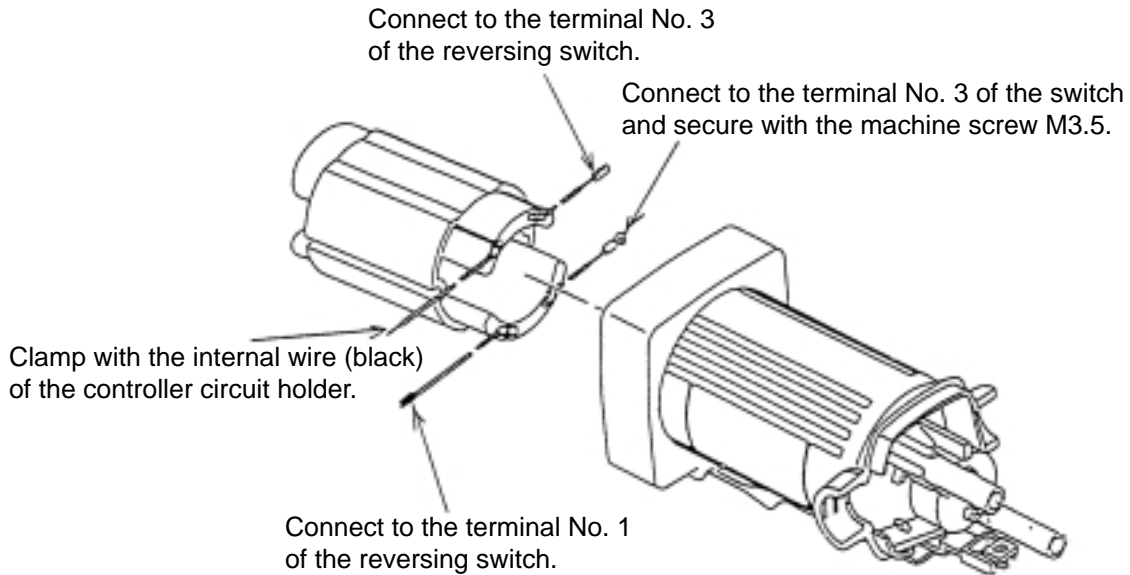

Fig. 9
- (1) Before inserting the Stator Ass'y [13] into the Housing Ass'y [32], be sure to mount the Slide Bar [45].
- (2) Insert the Stator Ass'y [13] into the Housing Ass'y [32] in the direction shown in Fig. 9, paying attention to the direction of the internal wires of the Stator Ass'y [13]. Connect the four internal wires of the Stator Ass'y [13] to the parts specified in Fig. 9.